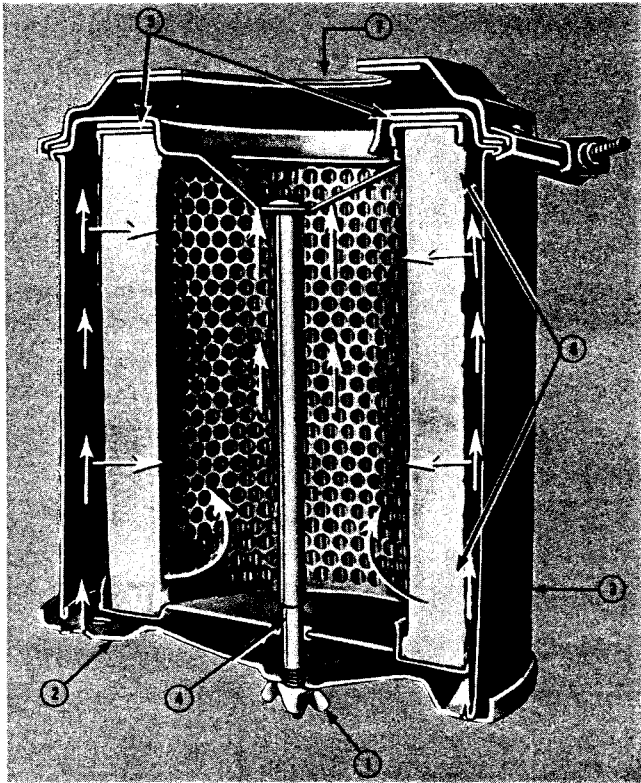

Fig. 2-9, (N11003). Air cleaner — dry type
1. Loosen wing nut (1, Fig. 2-9) securing bottom cover